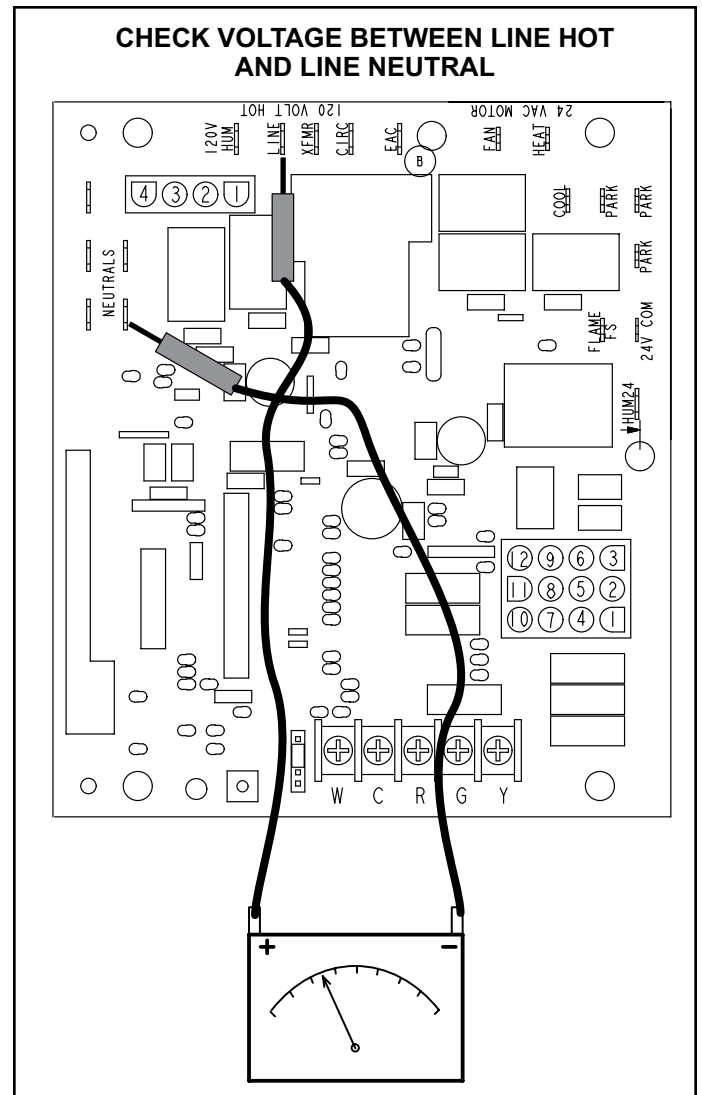

Figure 19.
2. In addition, measure the AC voltage from Line Hot to Line Neutral (spade terminals) on the integrated control. See Figure 19. This voltage should be in the range of 97 to 132 VAC.